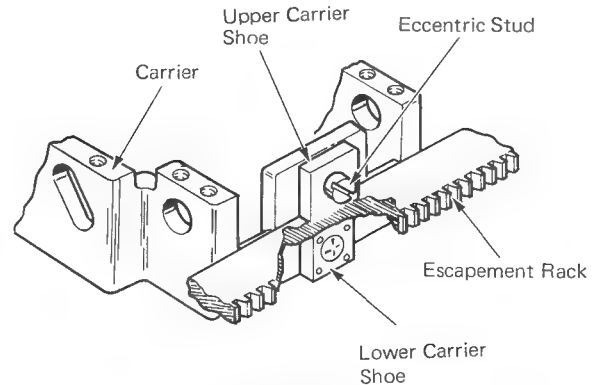

Figure 4 – Rear Carrier Support (Level 1)
*Early Level Machines* -- The carrier has two shoes. The lower shoe is a small block attached to a plate and mounted on the carrier. The upper carrier shoe is mounted by an eccentric stud (Figure 4).